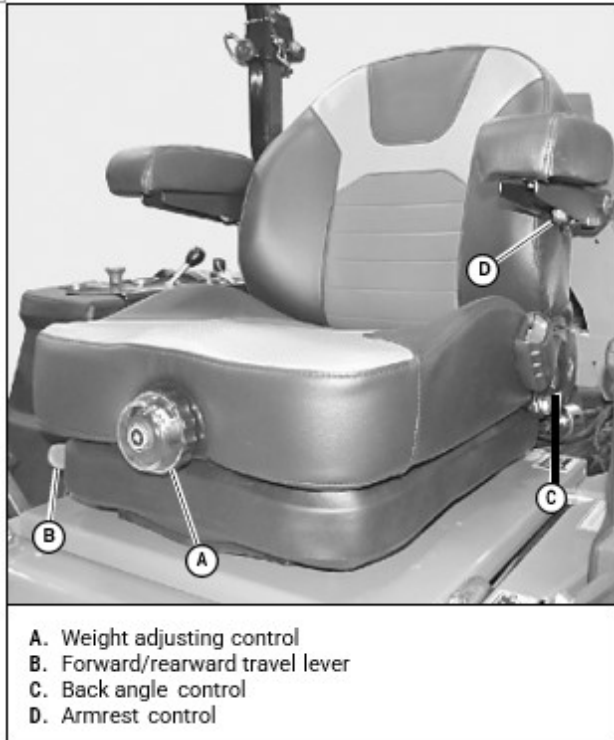

Figure 25
1. Weight adjusting control [Figure 25]
2. Forward and rearward travel [Figure 25]
3. Back angle control [Figure 25]
4. Armrest [Figure 25]